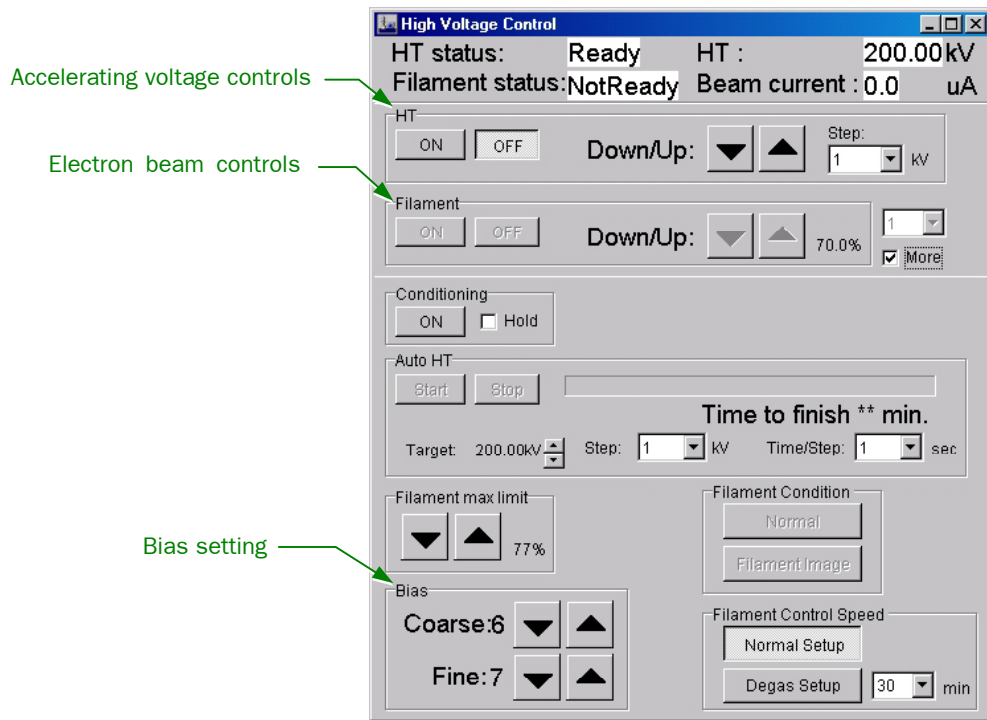

Fig. 6.2 Checking if the filament is burned out (High Voltage Control window)
3. Set the Coarse and Fine values in the Bias box to their maximum values using the ▲ button for each (Fig. 6.2).
5. Make sure that the Beam Current does not increase even if you raise the value in the Filament box to the Filament Max Limit using the ▲ button (Fig. 6.2).
6. Change the Coarse and Fine values in the Bias box to their original values (5 to 6) using the ▼ button (Fig. 6.2).
- a. Click on the **OFF** button in the Filament box in the **High Voltage Control** window (Fig. 6.2).
- a. Click on the **OFF** button in the HT box in the **High Voltage Control** window (Fig. 6.2).